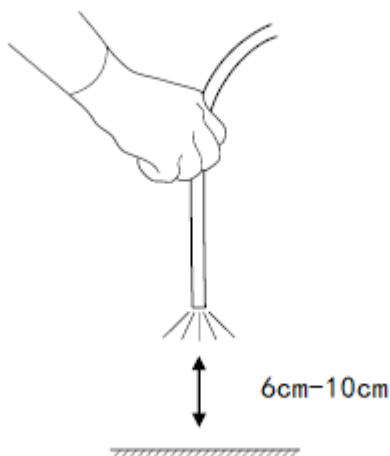

Figure 3.13
2. Point the tip of the endoscope towards a suitable object and move it between 6cm and 10cm to confirm that the image color and brightness of the suitable object on the LCD screen are basically stable. (As shown in Figure 3.13)